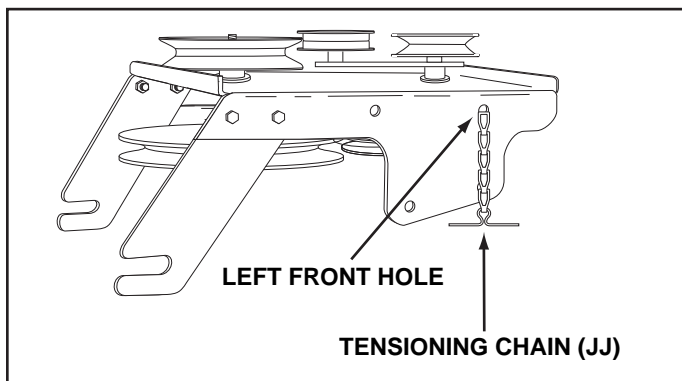

FIGURE 42
STEP 42: (SEE FIGURE 42)
- Place the extra tensioning chain (JJ) through the left front hole in the clutch/idler assembly and then turn the assembly upside down.